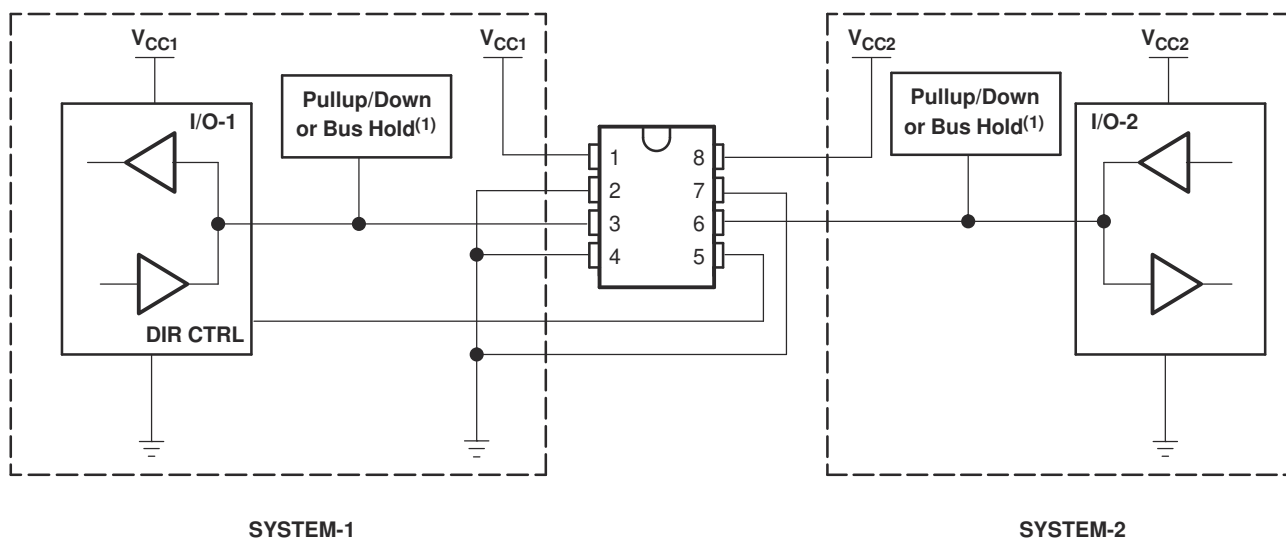

Figure 8-2. Bidirectional Logic Level-Shifting Application
Figure 8-2 shows the SN74LVC2T45 being used in a bidirectional logic level-shifting application. Because the SN74LVC2T45 does not have an output-enable (OE) pin, the system designer should take precautions to avoid bus contention between SYSTEM-1 and SYSTEM-2 when changing directions.